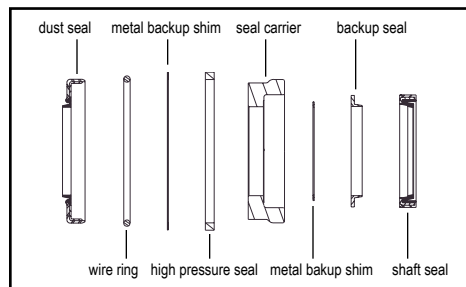

FIGURE 1
- D)** Place shaft (21) on a clean flat surface with output end facing up. Place thrust bearing (11) then thrust washer (10) on shaft. Install shaft seal (7) down onto shaft (21) making sure that lip on seal faces down (See Figure 1 for correct seal orientation). Install the Teflon backup seal (6) onto the shaft (21) with the flat side up and the seal lip facing the shaft seal (7). Place the metal backup shim (5) onto the shaft and against the Teflon backup seal (6). Place the seal carrier (9) onto the shaft (large end down) and carefully press the seal carrier (9) down onto the seal assembly using an arbor press and sleeve to compress the seals into the carrier.
- E)** Install high pressure seal (4) into groove in housing. Install metal backup shim (3) against high pressure seal (4) in groove in housing bore by squeezing the shim (3) between thumb and forefinger to bow shim (bow in the shim should be in the shape of a hill and not a valley for easier installation). While maintaining bow in shim, start the shim into the groove and use a small screwdriver to push the shim into groove. Install wire ring (2) into the groove making sure that the ends are butted.